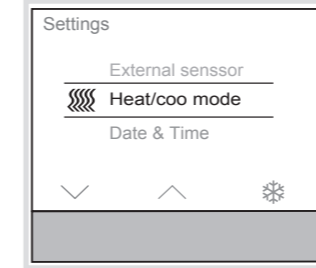

Figure 9: Heating or cooling mode selection
- The operating mode (figure 9) changes from heating to cooling.